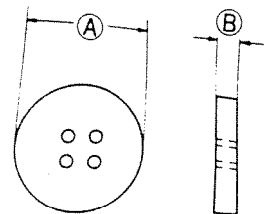

Fig. 36
To obtain the length of the cutting space, the opening through which the button passes, add the width(A) and thickness(B) of the button. (Fig. 36)